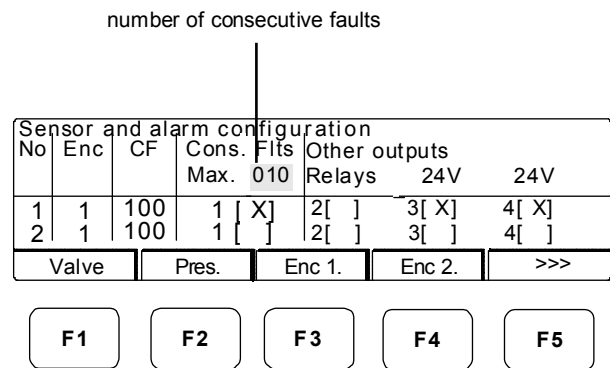

Figure 8-9. Sensor-and-Alarm Configuration Screen
1. Press F4 (Sensor). The sensor-and-alarm configuration screen displays (Figure 8-9).